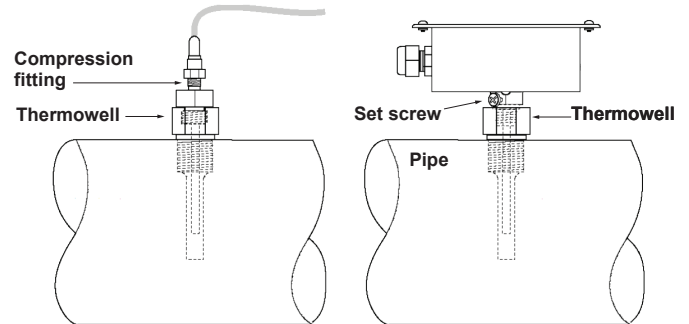

Figure 1 - Installing the Immersion Sensor
- a. Loosen the compression fitting and remove the probe. Refer to **Figure 1**.
- a. Loosen the set screw. Refer to **Figure 1**.